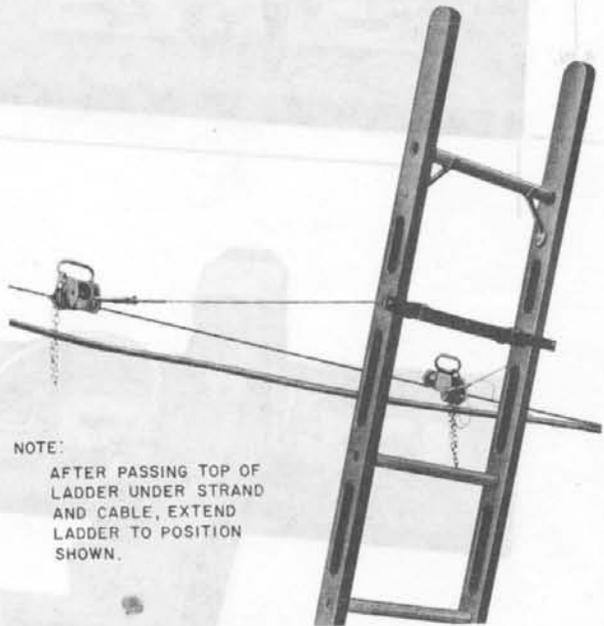

Fig. 15—B Ladder Support In Use
6.17 Descend and pull the foot of the ladder backward until the top of the ladder falls below the strand and cable. This may also be accomplished by lowering the ladder with the ladder rope. Push the foot of the ladder forward and adjust its length or raise the ladder with the ladder rope until the ladder assumes the position shown in Fig. 15. Place the ladder so that the distance from its base to a line extended vertically from the sling assembly bar is about one-fourth of the length of the ladder, measured from its base to the sling assembly bar.